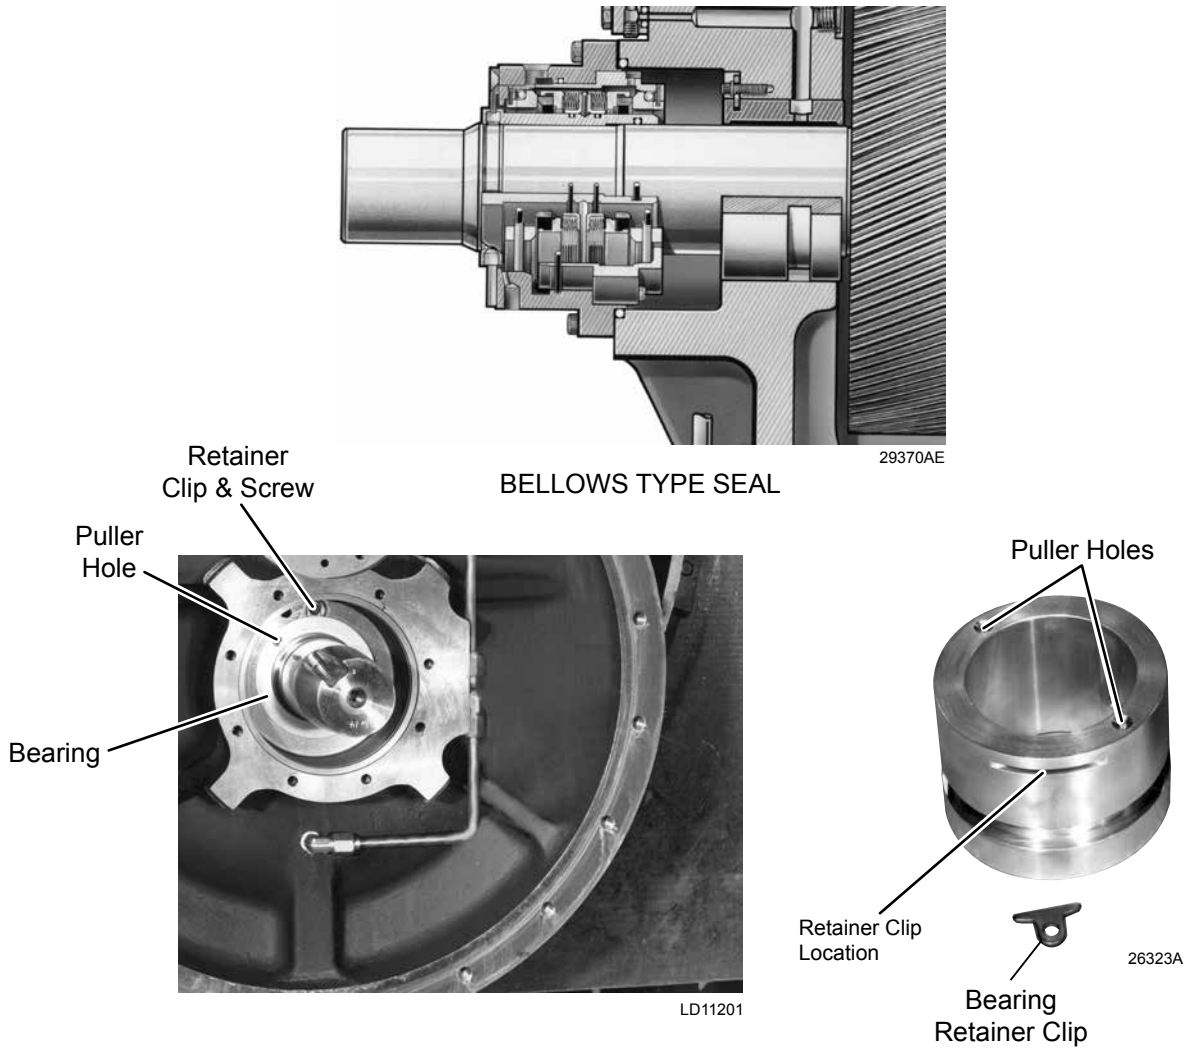

FIGURE 35 - REAR LOW-SPEED BEARING
(see *Figure 35 on page 32*)
3. Carefully slide the bearing into position over the drive shaft. Be sure it is turned so that the slot for the retainer clip is at the top (see *Figure 35 on page 32*).